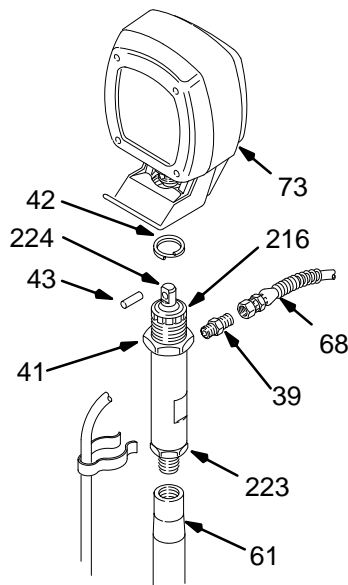

Fig 38-2
5. Tighten the packing nut (216) just enough to stop leakage, but no tighter. Fill the wet-cup/packing nut 1/3 full with Graco TSL. See Fig 38-2.
Remove the pump See Fig 38-2.